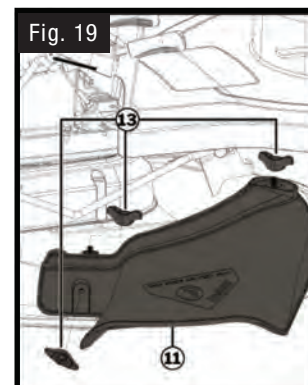

Fig. 19
1. Install a discharge cover (11) in the designated location on the mower deck as shown in **Fig. 19**.
1. Remove the discharge cover (11) as shown **Fig. 19**.